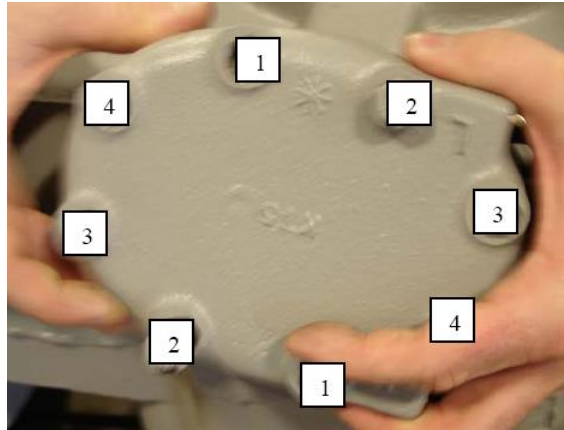

Figure 9
8. Torque bolts in an alternating sequence pattern (top to bottom, left to right See Fig. 9) to 35 to 50 ft-lbs. (48 to 68 Nm). Do not torque bolts in a circular pattern.